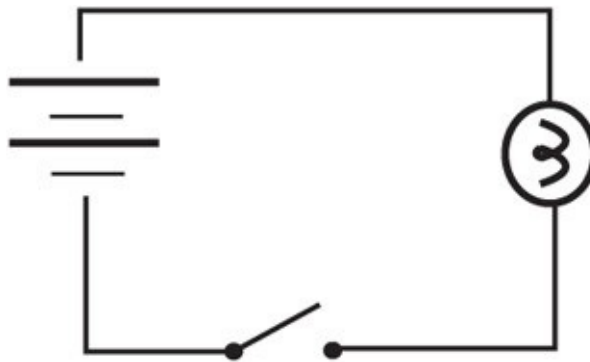

Figure 100-1 *Basic electrical circuit consisting of a battery, bulb and a switch.*
1. Look at the circuit diagram in Figure 100-1 and make the appropriate connections.